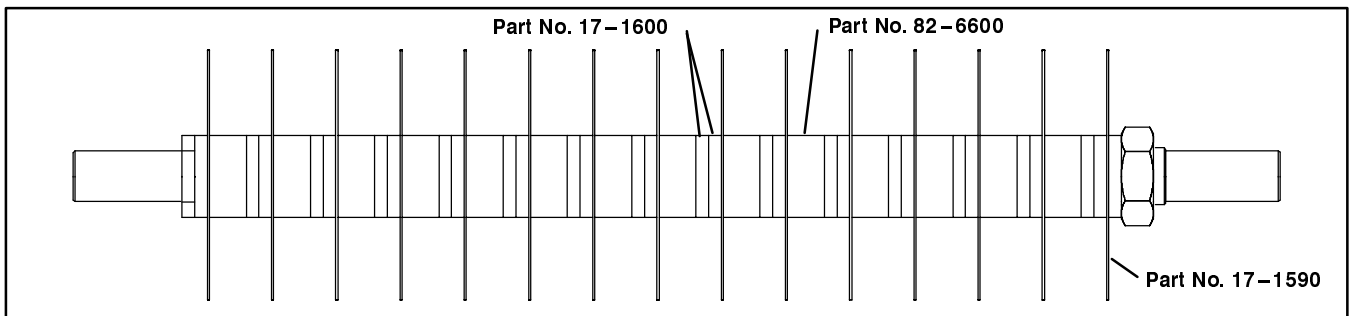

Figure 18
1-1/4" spacing, Kit Part No. 82-7002 – Includes (28) 1/4" Thick Spacers (part no. 17-1600) (Fig. 18).